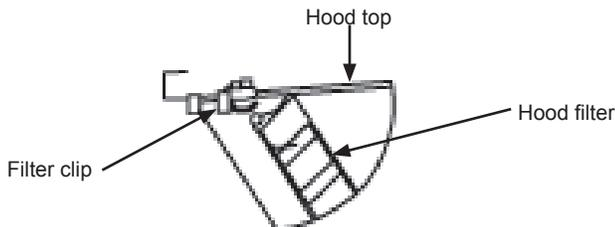

Figure 10
4. Open the filter clips on the underneath side of the hood top and insert filter. See Figure 10.